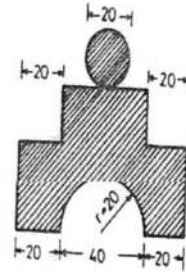

Fig.2
- (b) Determine the centroid of the built up section in Fig. 2 and find the moment of inertia and radius of gyration about the horizontal centroidal axis. **(8,12)**